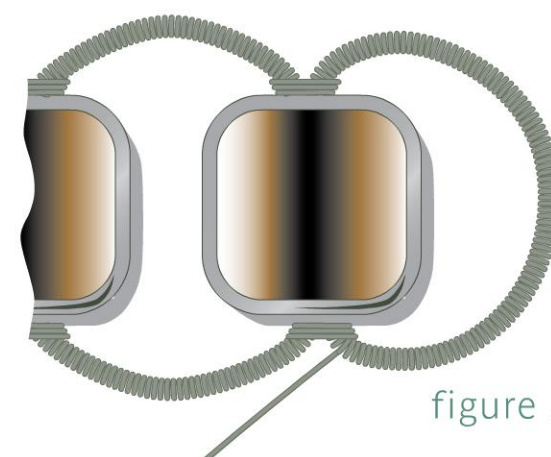

figure 5
- 12** Starting with the first coil strung onto the 22-gauge wire in Step 5, wrap the tail three times around the junction of the two coils next to the frame. Don't pull hard on your wrap, or the coils will separate. Repeat on the second side (Figure 5).